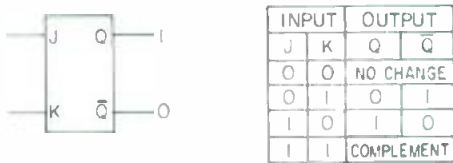

Figure 3. JK flip-flop with truth table.
The commonly-used J-K flip-flop has two inputs and two outputs and no ambiguous states (FIGURE 3). When a HI is applied to the J input, the flip-flop is switched to a HI state. (Note that when we say that a flip-flop is in a HI (or LO) state, we are referring to the state of the Q output. Therefore, the \bar{Q} output is in the opposite state.)
Figure 3. (A) A graph showing the S.P.L. of each singer across the stereo spectrum. Addition of decibel levels for each singer equals the total S.P.L. for that voice. This example gives equal S.P.L. for each singer
The effect of these two methods on stereo balance is shown in FIGURE 3. The phase-related method puts signal across the entire left-to-right spectrum. Components of each singer's voice are contained on both tracks, with varying intensity and time delay depending on the singer's position, relative to the microphones. Every point within the stereo spectrum is affected by both microphones.